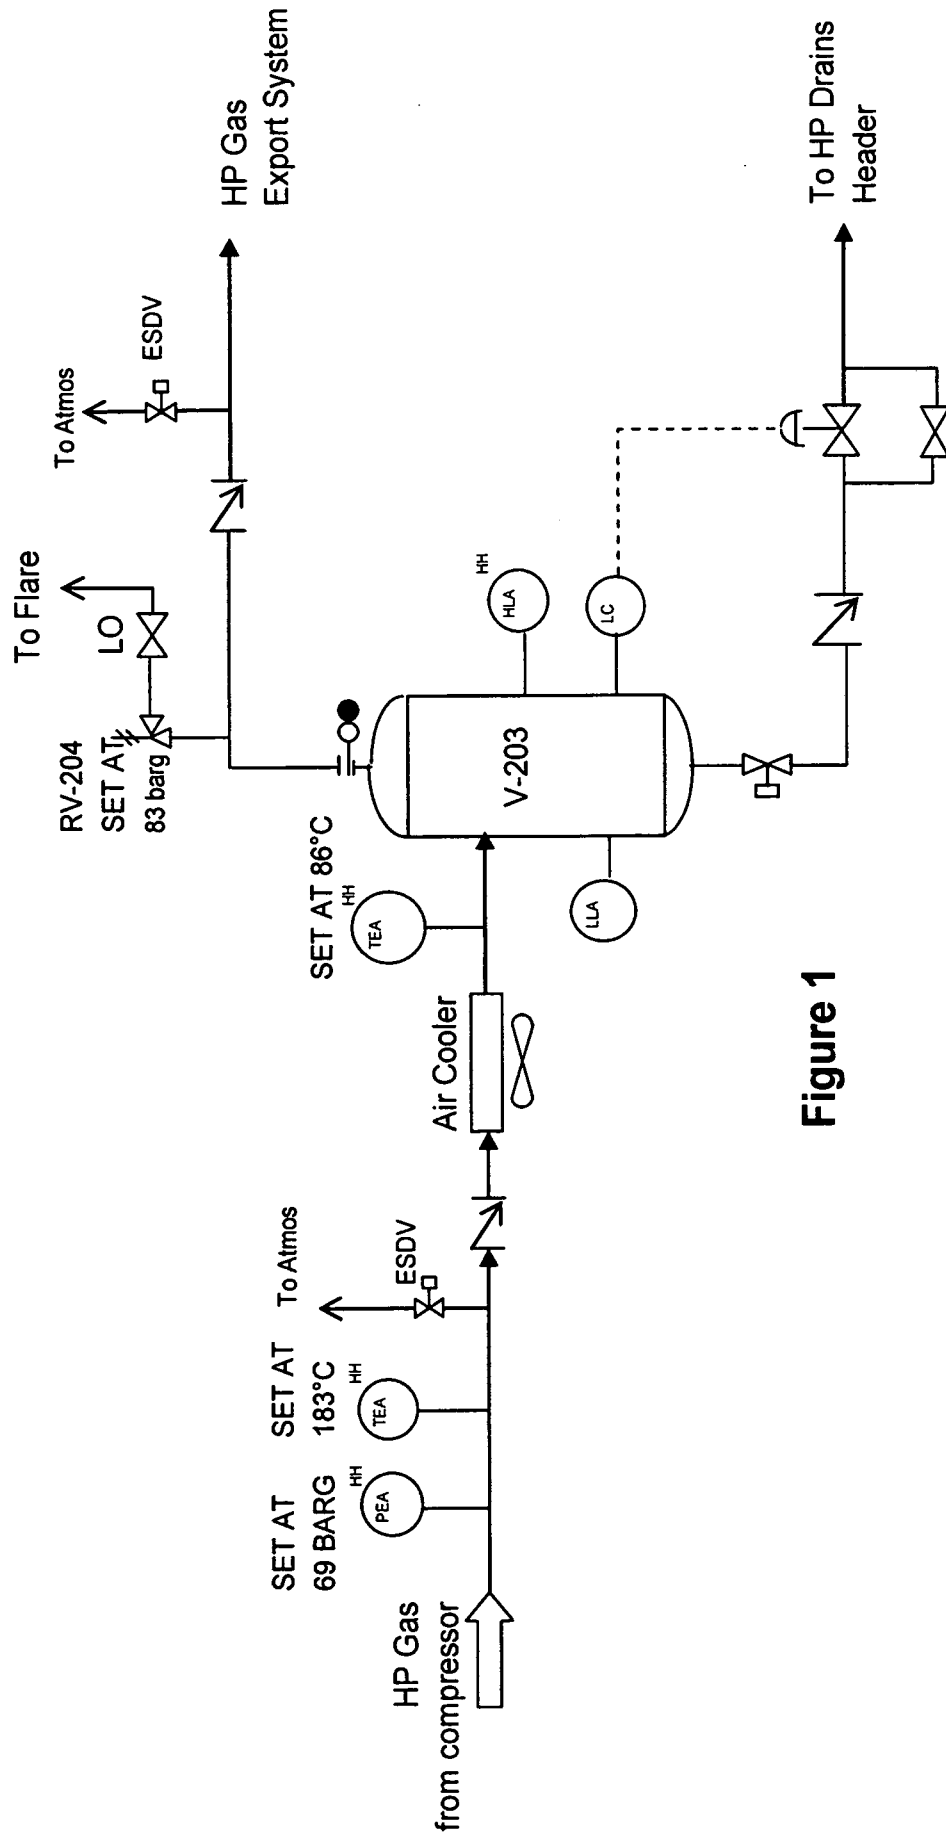

Figure 1
- (c) The Discharge Scrubber V-203 shown in Figure 1 (next page) receives gas from a high pressure gas compression train at 62 barg and 60°C. The primary purpose of the scrubber V-203 is to separate any entrained liquids in the gas stream and prevent it from entering the High Pressure gas export system.
Question 2, Figure 1